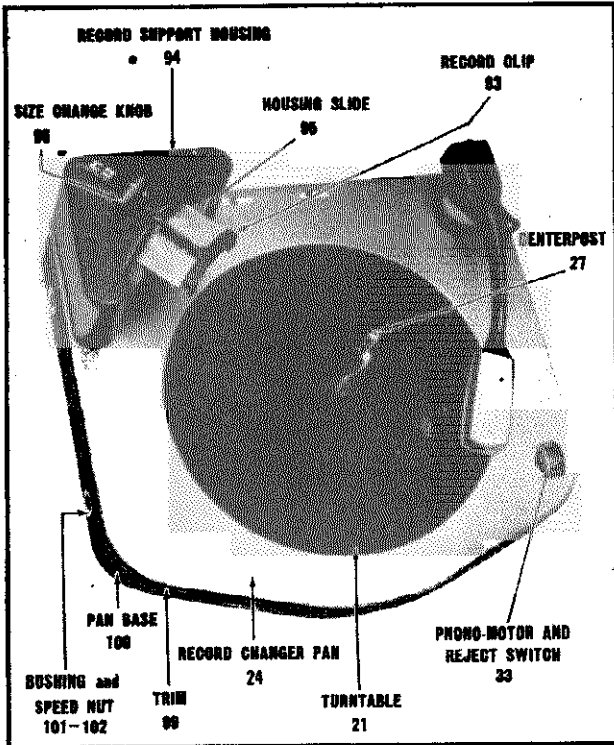

Figure 1. Record Changer, Top View
If the size-change knob does not slide back freely, the setting may be changed by pushing against the front of the record clip (83) when it is in the downward position as shown in Figure 1.
7. ADJUSTMENT OF SET-DOWN POINT (See Figures 1 and 8)